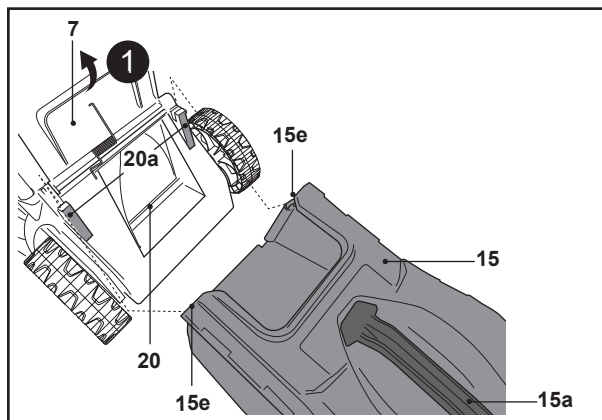

Fig. 7
4. Open the rear deflector guard (7) and hold it in position (Fig. 7, step 1).
5. Carry the grass catcher (15) by its carry handle (15a).
6. Align the two catcher hooks (15e) with the slots (20a) and hang the grass catcher (15) onto it (Fig. 7, step 2).
7. Carefully release the rear deflector guard (7) afterward.